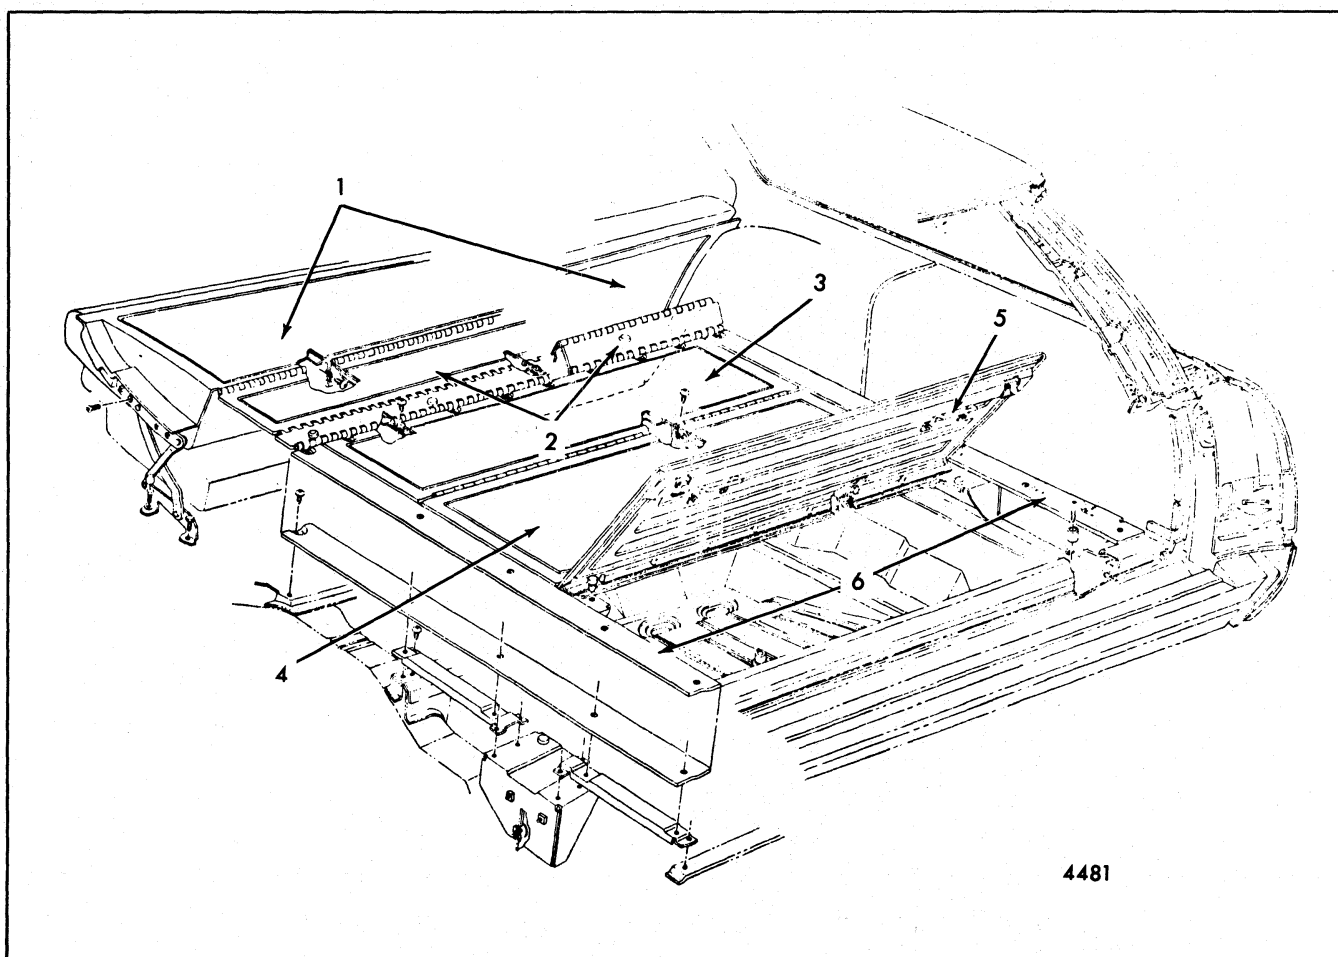

Fig. 9-87-Folding Seats and Load Floor Panels - "A and B" Body Two-Seat Styles
2. Figure 9-87 is typical of all two-seat station wagon styles.